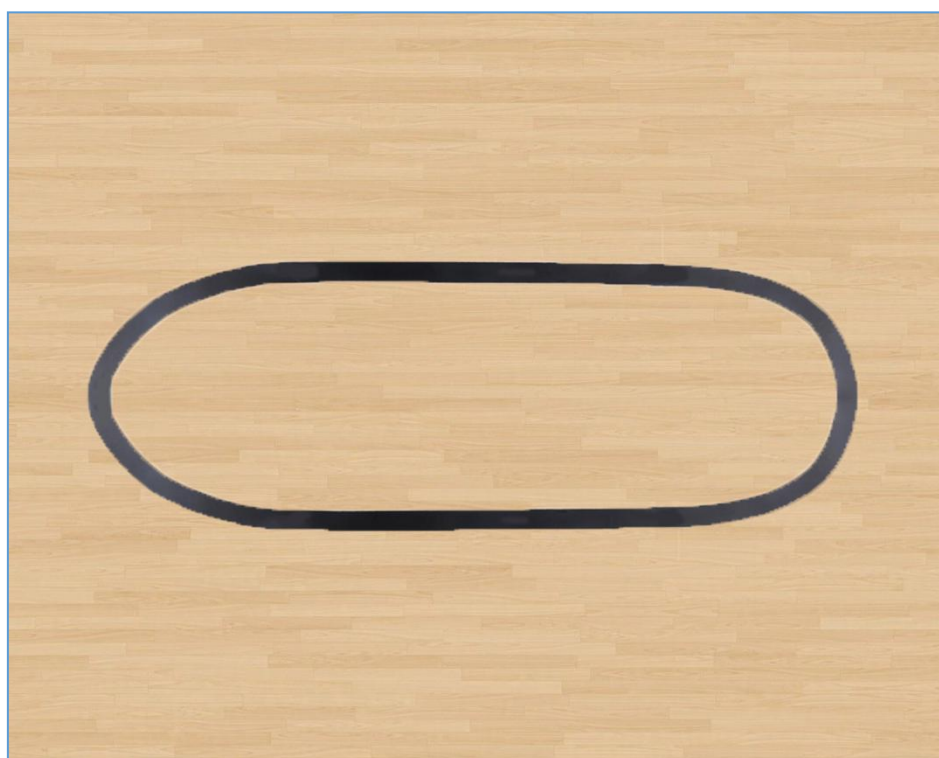

Figure .3.2.20 Example of the Black Track
- 2, Making the track.If your floor is white, then you could stick a black tape to form a loop, otherwise stick a white tape, the shape of track is based on your own desires, the best width of the tape is 13-18mm. In this manual, we use the black track, as shown in Fig.3.2.20.